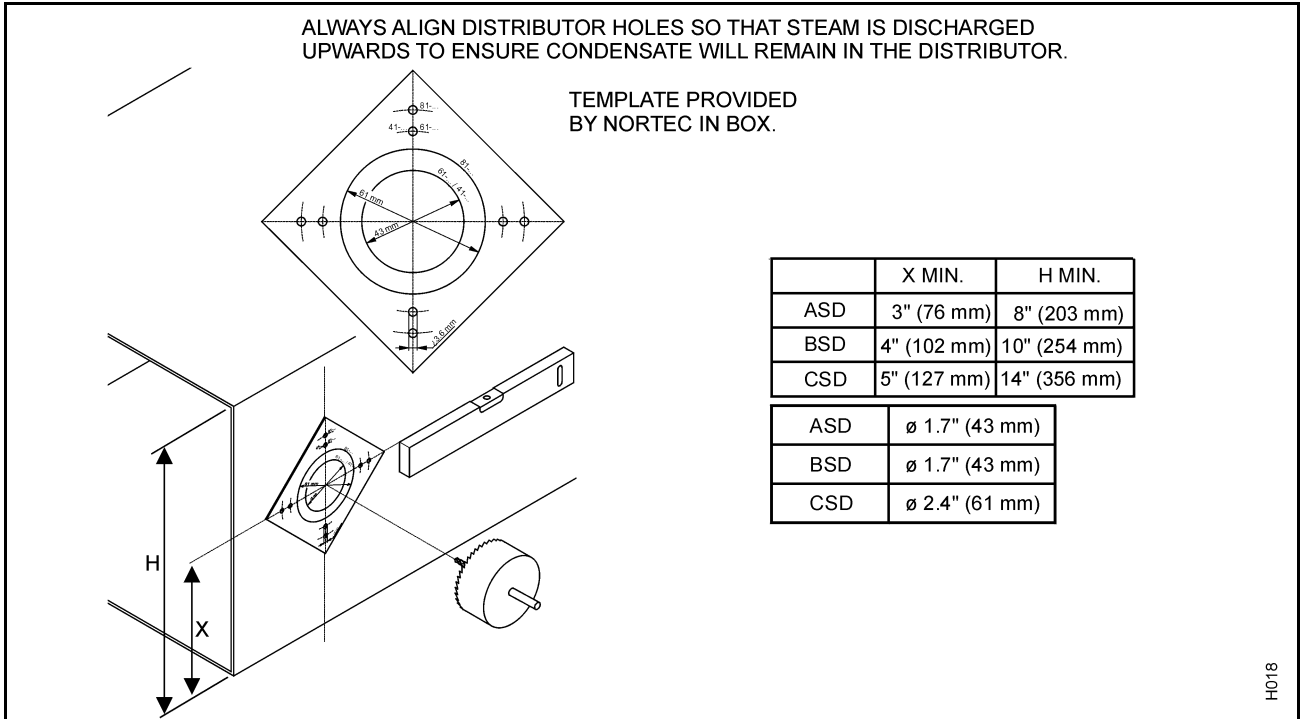

Figure 12. Cutting Duct For Mounting
- (2) Distributors come complete with a mounting plate. (See Figure 12.) Most ducts and plenums are rigid enough to support the distributor.